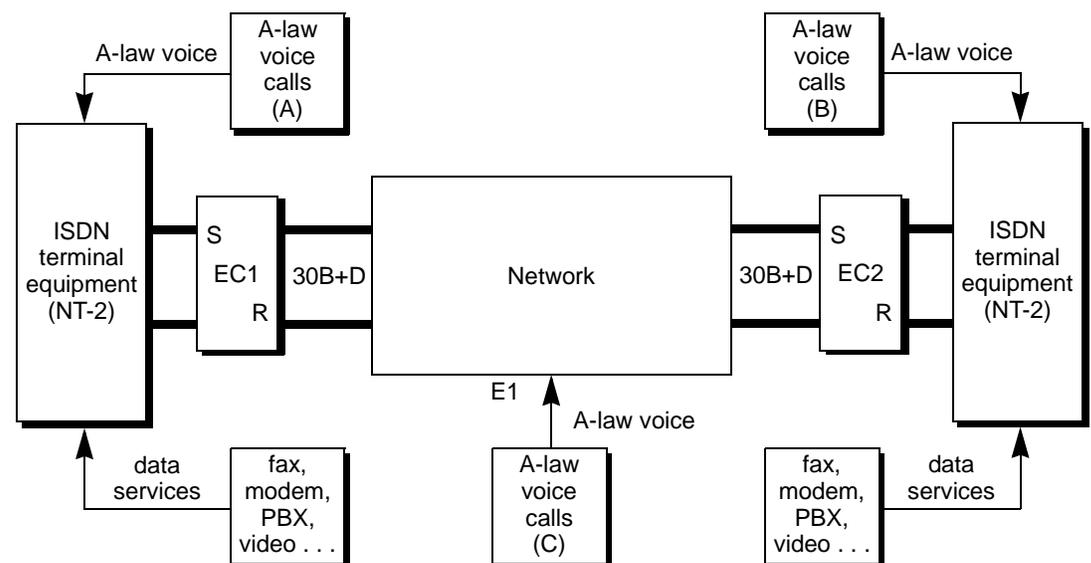

Figure 3-1 ISDN in the network
- 3.3 Figure 3-1 shows an example of an ISDN network. Echo Canceller 1 (EC1) protects either A-law voice caller (B) or (C) from hearing echo. Traditionally, ISDN (or other) voice calls are switched through the network where echo cancellation occurs. However, with dedicated lines that are cross-connected through a data overlay network, echo cancellation may not be available; therefore, an ISDN echo canceller is necessary to provide echo cancellation protection to A-law voice callers into the ISDN user.